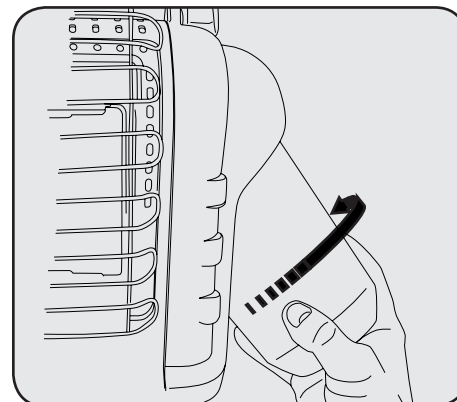

Figure 2
2. Screw 1 lb. disposable LP-gas supply cylinder clockwise (from bottom) into portable heater until hand-tight. See Figure 2. Do not use thread sealant on this connection.